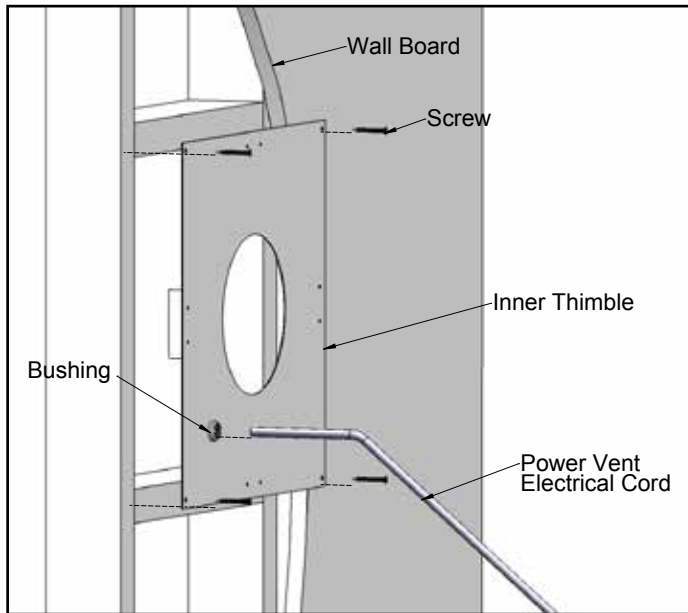

**Figure 4 Typical overall dimensions with minimum horizontal vent installed.**
- 50 feet (15.25m) of cable is supplied with this kit, if more venting is required, use 706-033 - 100 feet (30.5m) PVK CABLE and connect it as shown on the wiring diagram in Figure 4.
3. Using the dimensions in Figures 4 & 5, frame an opening for the thimble of 14½" x 14½" (368mm x 368mm).